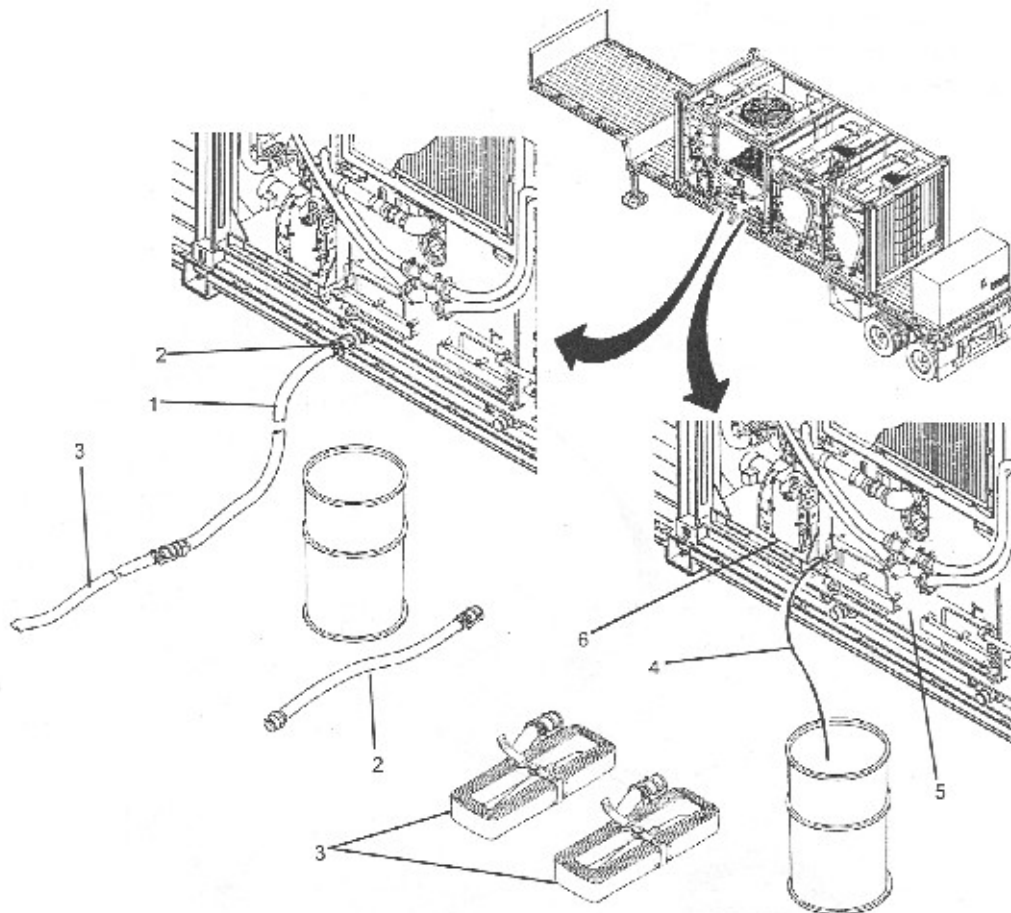

Figure 3-54
- (1) Disconnect 5 ft drain hose from drain port and 50 ft drain hose.
- (2) Disconnect two 50 ft drain hoses from each other.
- (3) Roll up two 50 ft drain hoses.
- (4) Stow coalesces drain tube between still and heater. (See Figure 3-54)